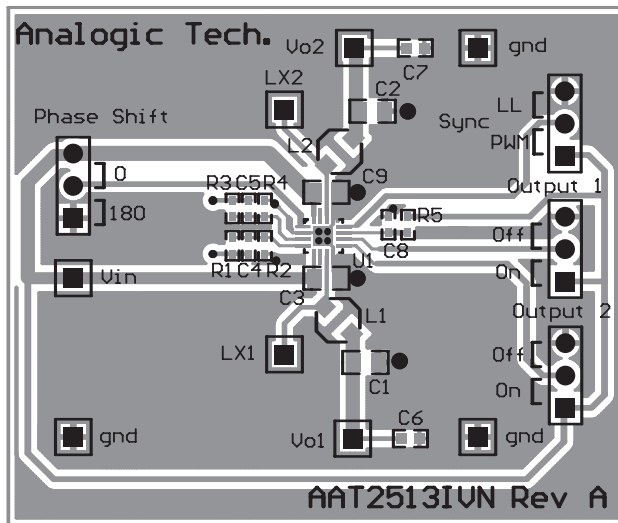

Figure 3: AAT2513 Evaluation Board Top Side.
1. Due to the pin placement of V_{IN} for both converters, proper decoupling is not possible with just one input capacitor. The input capacitors C3 and C9 should connect as closely as possible to the respective VIN and GND as shown in Figure 3.